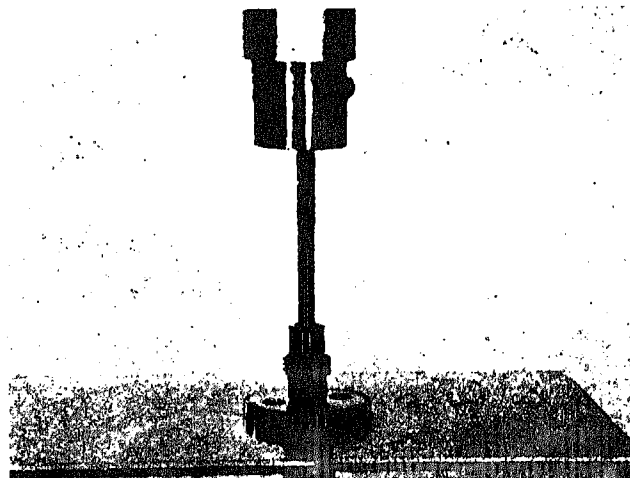

Fig. 506-7 Press tachometer drive gear and governor drive gear
1. Press tachometer drive gear and governor drive gear from drive shaft. Fig. 506-7.